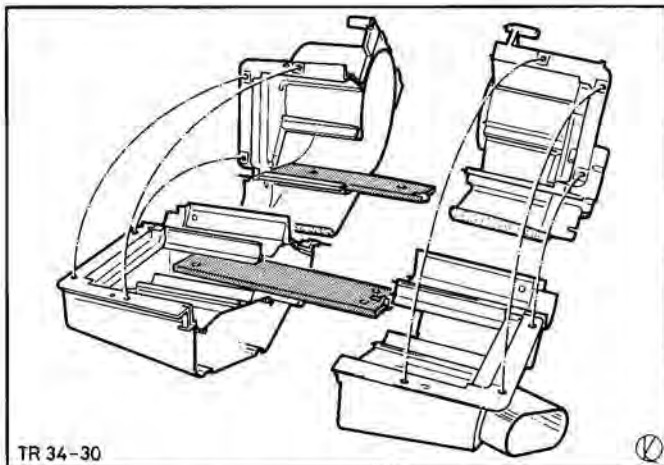

Fig.22. Assemble casing halves and air valves.
5. Separate lower part of casing (6 clips) and remove the second air valve from the associated casing half, Fig.22.